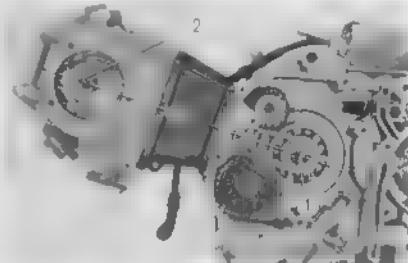

Fig. 3.16 Removing the camshaft
8. Rotate the crankshaft so that woodruff key ① is aligned with the 3×5.2 dowel pin ② on the camshaft and then remove the camshaft by unscrewing the two bolts. (Fig. 3.16)